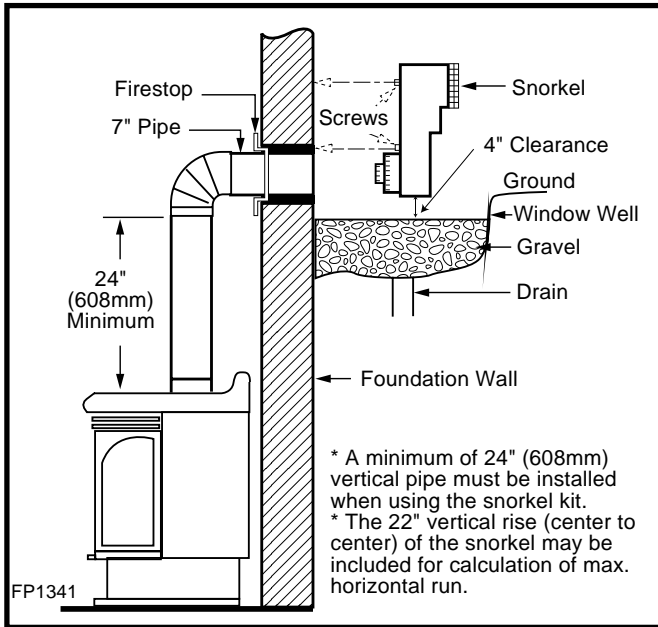

Fig. 21 Below grade installation.
2. Remove soil to a depth of approximately 16" below base of snorkel. Install drain pipe. Install window well (not supplied). Refill hole with 12" of coarse gravel leaving a clearance of approximately 4" below snorkel. (Fig. 21)
7. Level the soil so as to maintain a 4" clearance below snorkel. (Fig. 21)